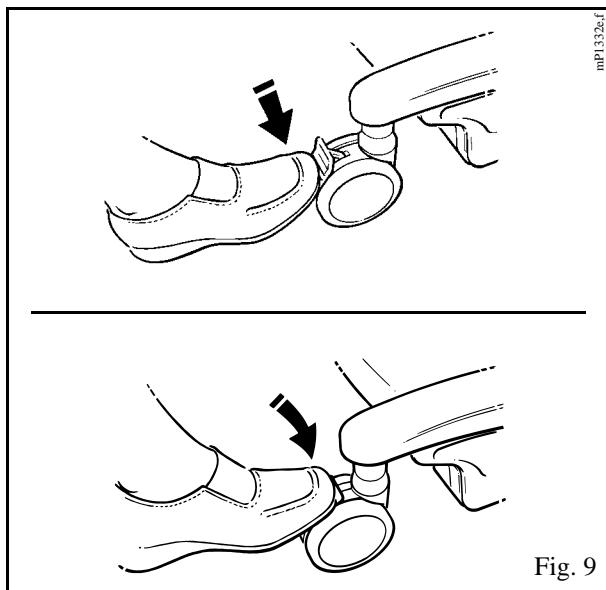

Fig. 9
Chassis castor Brakes:- (See fig 9) The chassis rear castors have brakes which can be foot operated if required, for example, when leaving the patient unattended, or to keep the *Opera* in position.
- **Note:** The chassis rear castors have brakes which can be foot operated when required (see fig. 9). Do not apply the castor brakes at this stage, as the position of the patient will adjust to his/her own centre of gravity when lifted.